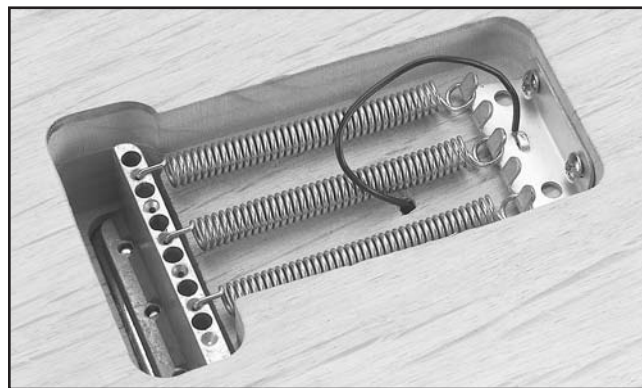

Figure 25. Correct spring placement.
13. Hang the three springs from the spring hanger to the tremolo bridge, as shown in **Figure 25**.